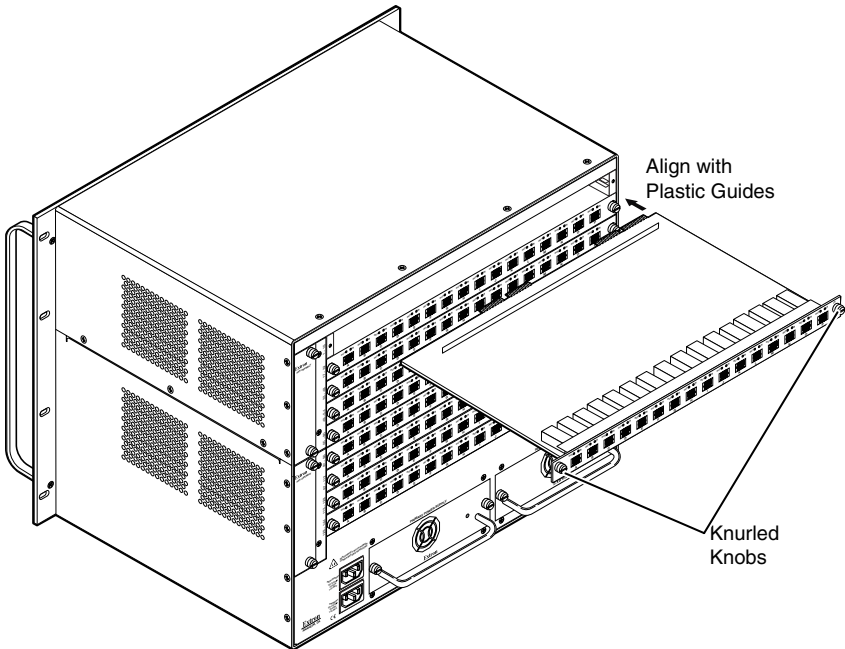

Figure 11. Remove and Replace I/O Board
4. Slide the board or panel out of the chassis (see figure 11).